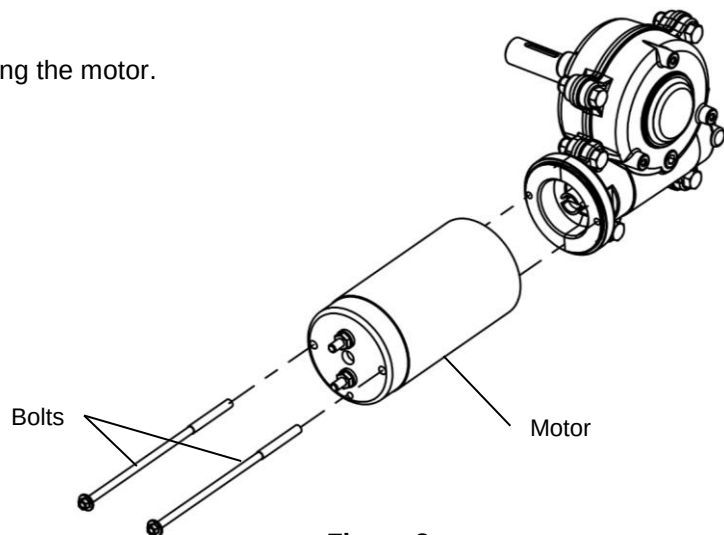

Figure 3
4. **Figure 3.** Remove the two bolts securing the motor.